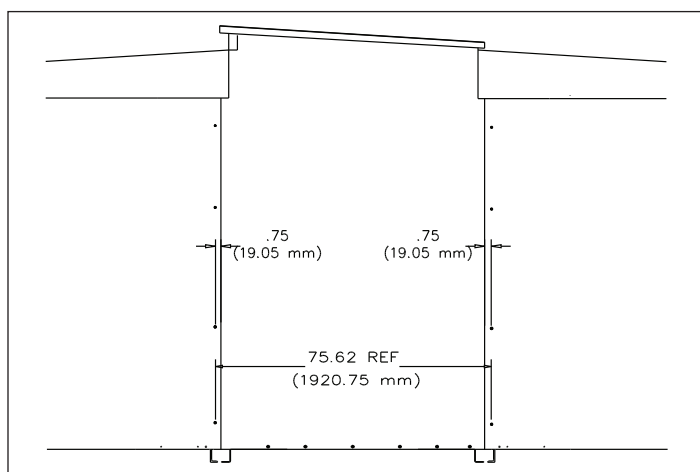

Figure 22. Proper Overlap of Unit and Aisle End Trim.
20. Slide the unit roof end trims forward and install hardware removed earlier (all four corners). Refer to Figure 22 for the proper overlap.